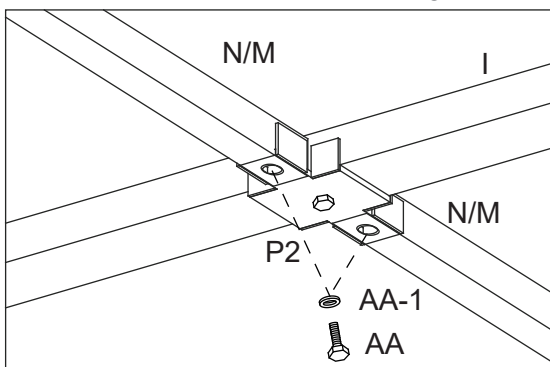

Figure 9-3
9.3: Attach the Horizontal Main Roof Supports (N, M) to the Connector (P2) using Bolts (AA) and washer (AA-1). See Figure 9-3.